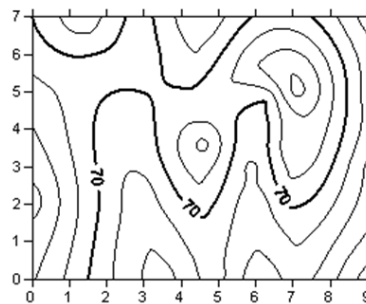

Figure 1.135 – The contour line at $Z=70$ appears bolder than other contour lines at the map after changing the line properties
5. Click OK in the map properties dialog and the map is redrawn. The contour line at $Z = 70$ is drawn with a thicker line, fig. 1.135.